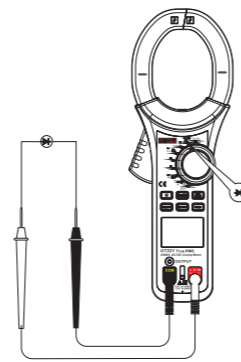

Figure 6
4. Diode test (→|←) (See Figure 6)